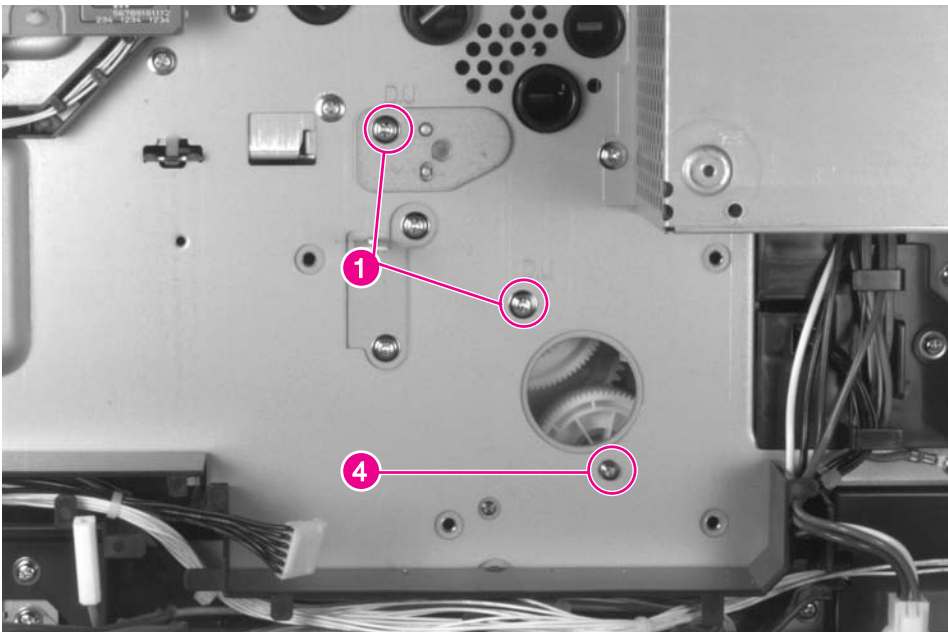

Figure 6-38 Main Gear Assembly (1 of 3)
- 2 Remove 2 screws (figure 6-38 on page 256, callout 1).
- 4 Make sure that the locating pins are properly aligned and that the gear assembly fits tightly against the chassis before replacing the screws (figure 6-38, callout 4).